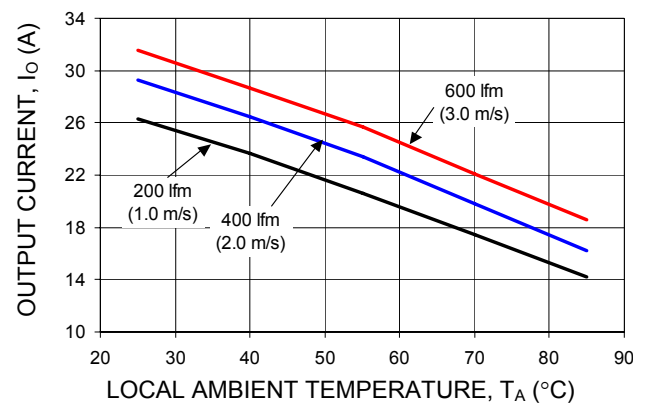

Figure 14. Output Current Derating for the QBK033A0B in the Transverse Orientation; Airflow Direction from  $V_{in}(+)$  to  $V_{in}(-)$ ;  $V_{in} = 48$ V.
The use of Figures 14 - 15 are shown in the following example:
Determine required airflow (V) (Use Figure 14):